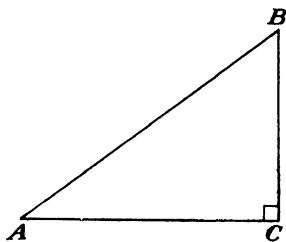

Fig. 71.
29. Measure to the nearest 64th the lines in Fig. 71. Then complete this table: